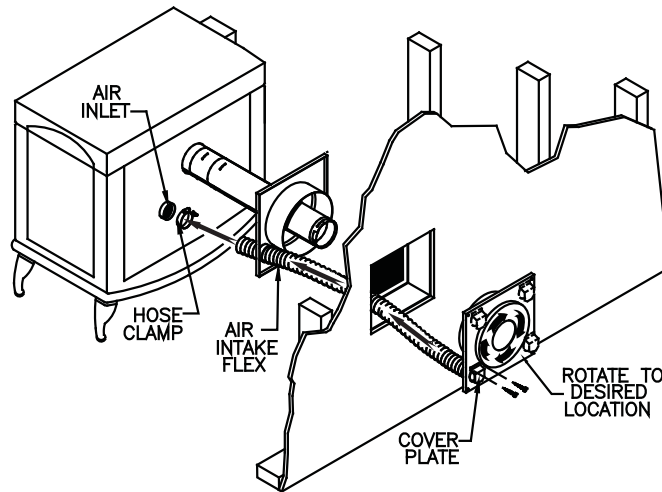
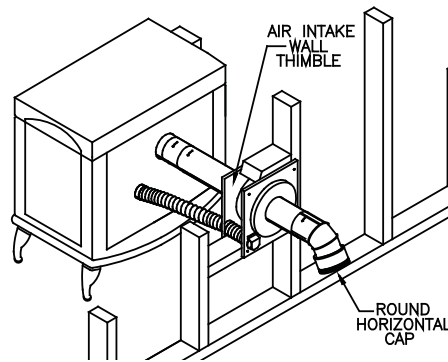

Figure 12
Figure 13
halves of the Wall Thimble onto Pipe Section. Connect the flexible hose with clamp to the exterior half of the Wall Thimble. Guide the flex through the opening in black interior half of Wall Thimble, gently pull the flex towards appliance (**Figure 12**), and if necessary trim excess flex to required length with snips. Secure flex to combustion air inlet of the stove with clamp provided. Only connect metal flex to the appliance; do not substitute or install plastic flex. The cover plate comes installed on the lower left corner of the thimble with intake guard pointing downward to deflect rain. If it is desired to rotate thimble and air inlet to another corner, remove the (2) screws on the inlet guard and re-attach over air inlet at new location. Secure black interior half of the Wall Thimble to the interior wall, and the unpainted exterior half are to be secured to the exterior wall on both styles of thimbles (**Figure 13**). The Wall Thimbles adjust to fit walls from 4"-8" thick. For installation in thicker walls an extension tube may be field fabricated.
**5.** If the flue exit is on back of the stove, and a horizontal through-the-wall installation is desired (**Figure 13**):